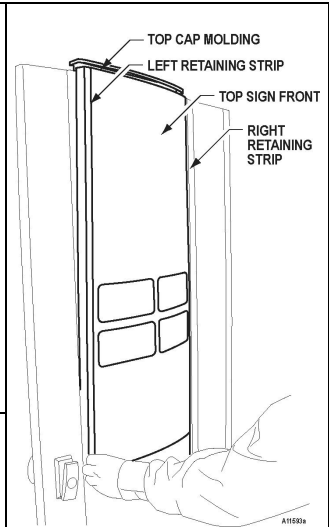

Figure 6c. Remove Top Sign Front
3. Lift Top Cap Molding and loosen Retaining Strip on the left side of the Top Sign Front (on the front of cabinet door). Remove the Retaining Strip and Top Sign Front assembly. See **Figure 6c**. *(This is most easily done by applying outward pressure on the wing nut screws on the inside of the door.)*
7. Insert the right edge of the Top Sign Front into the slot of the right side Retaining Strip. See **Figure 6c**.
8. Slip the left side Retaining Strip over the left edge of the Top Sign Front. Push the Retaining Strip back into place. See **Figure 6c**. *(To accommodate the rounded front design, carefully bow the left edge of the assembly to the right until you are able to press the three retaining screws back into position.)*